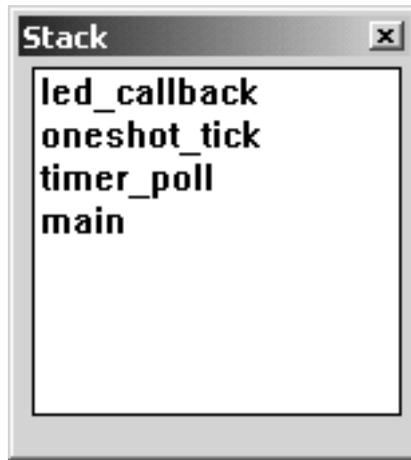

Figure 7-3 Stack Window
5. *Examine Stack Window*—the Stack window is a read-only display of the subroutines which have been pushed on the hardware stack. With the `starter` example stopped in `led_callback`, the stack window appears as shown in Figure 7-3.